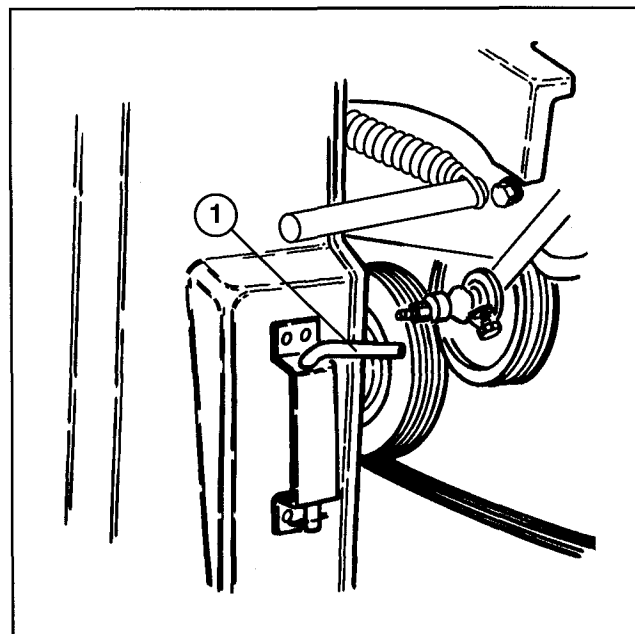

Figure 24
- B. Remove override pin from storage bracket on front of coring head cover (Fig. 24).
1. Remove override pin from storage bracket on front of coring head cover (Fig. 24).